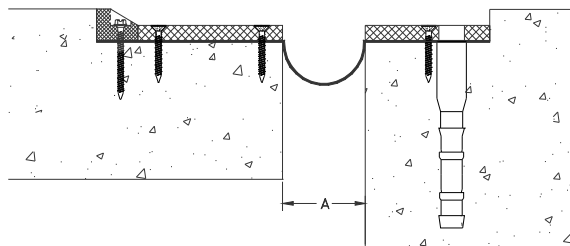

Figure 18
STEP 36. For nosing installations using mechanical fasteners, affix the nosing to the concrete, using the fasteners provided by the factory (see Figure 18). Ensure that the nosing is straight, level, and properly aligned.